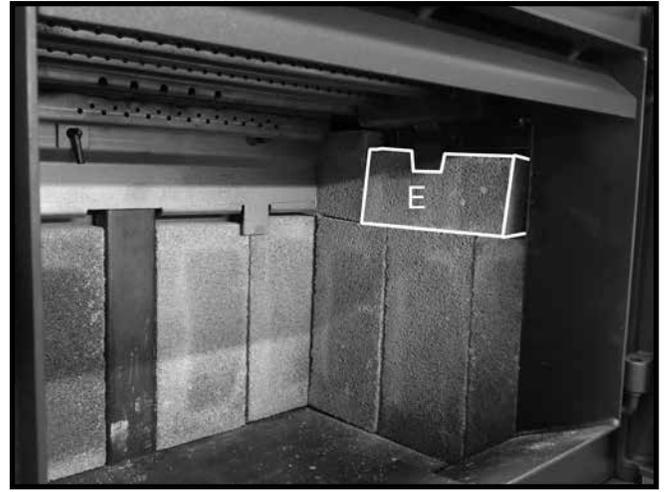

Figure 23: Final side wall firebrick in position.
2. Slide an "E" firebrick under the side wall brick rail tab and rest on top of the three previously placed side wall firebricks (Figure 23). Repeat steps 4-7 on the other side.